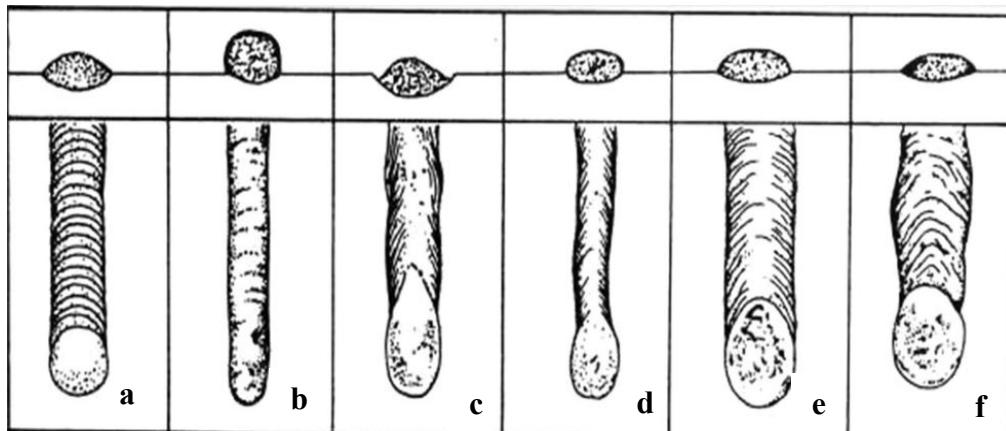

Figure 4b(iii)/ Rajah 4b(iii)
- (iii) Based on **Table 4b(iii)**, match the travel speed of beat on **Figure 4b(iii)** below.